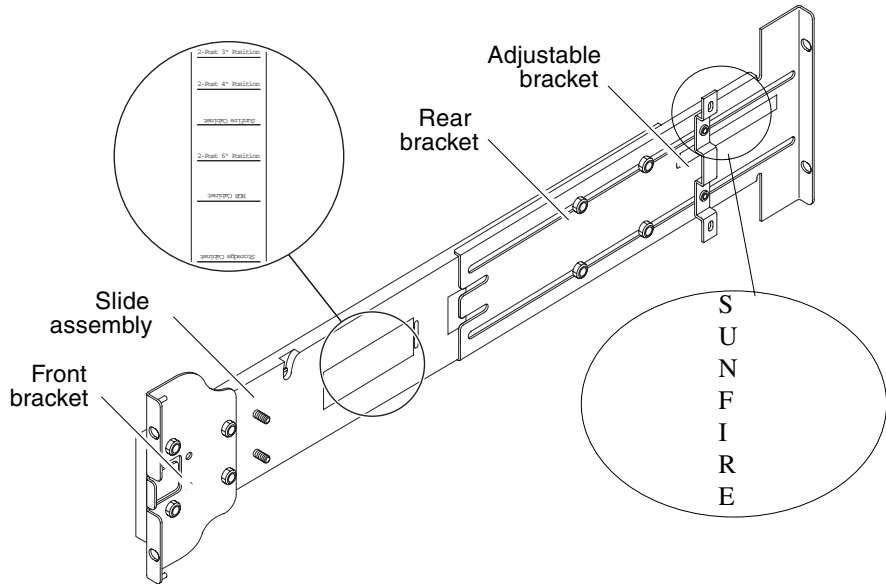

FIGURE 1-1 Rail Assembly (Standard Configuration)
Each rail assembly is comprised of four components (FIGURE 1-1):
Adjust the position of the rear bracket or the adjustable bracket to modify the length of the assembly. The slide assembly and the rear bracket are marked with bracket locations for specific cabinets stamped onto the metal. FIGURE 1-1 shows the location of the markings.
1. Remove the nuts that secure the adjustable bracket and discard the adjustable bracket (FIGURE 1-1).